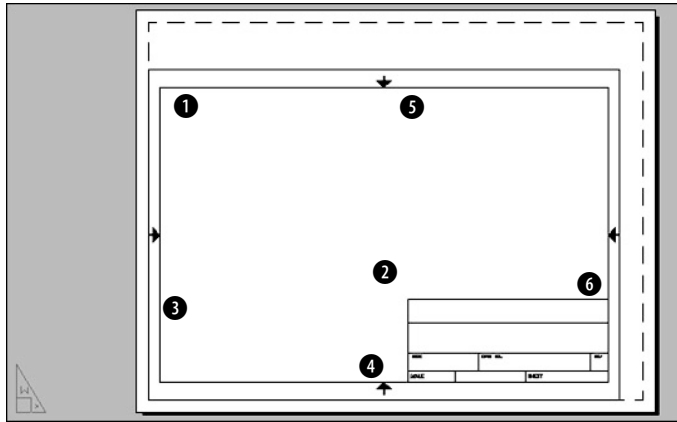

Figure 17-12: The title block inserted into paper space.
10. Choose Insert ⇨ Block to open the Insert dialog box. Click Browse. Choose `ab-17a-blk.dwg` from the CD-ROM and click Open. Uncheck any checked Specify On-Screen checkboxes. Click OK to insert the title block, as shown in Figure 17-12.
12. Choose View ⇨ Viewports ⇨ 1 Viewport. (Turn OSNAP off if it's on.) At the Specify corner of viewport or [ON/OFF/Fit/Shadeplot/Lock/Object/Polygonal/Restore/2/3/4] <Fit>: prompt, choose ❶ in Figure 17-12. (If you are using AutoCAD LT, your prompt will look slightly different.) At the Specify opposite corner: prompt, choose ❷.
13. Click the right mouse button and then choose Repeat 1 Viewport. At the prompt, choose ❸ in Figure 17-12. At the next prompt, choose ❹ in Figure 17-12. Again repeat the command and choose ❺ and ❻ in Figure 17-12. You now see the drawing in the three viewports.